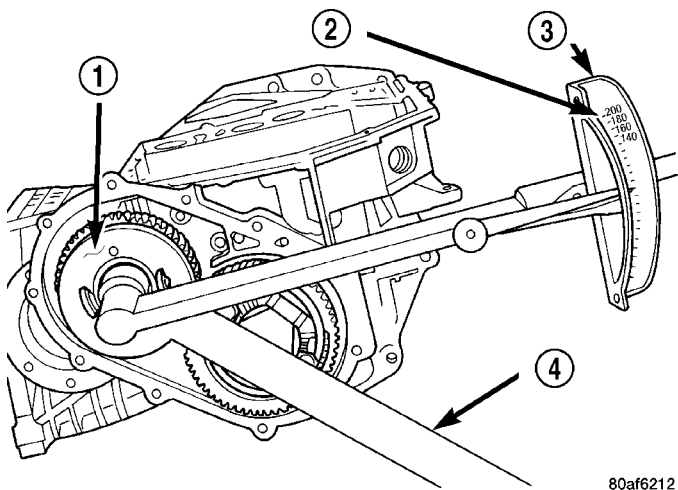

Fig. 120 Tighten Nut to 271 N·m (200 ft. lbs.)
(33) Install the new retaining nut and washer.
(34) Using Tool 6259, torque transfer gear retaining nut to 271 N·m (200 ft. lbs.) (Fig. 120).